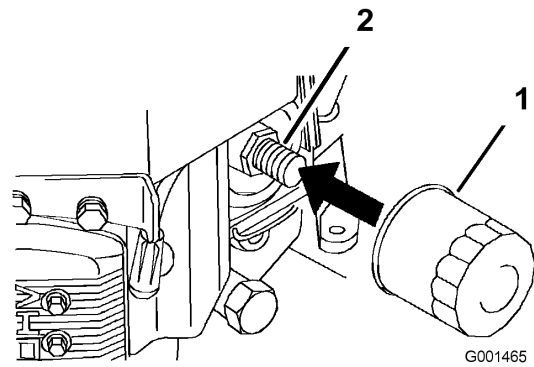

Figure 26
2. Remove the old filter (Figure 26).
3. Apply a thin coat of new oil to the rubber gasket on the replacement filter (Figure 26).
4. Install the replacement oil filter to the filter adapter, turn the oil filter clockwise until the rubber gasket contacts the filter adapter, then tighten the filter an additional 3/4 turn (Figure 26).